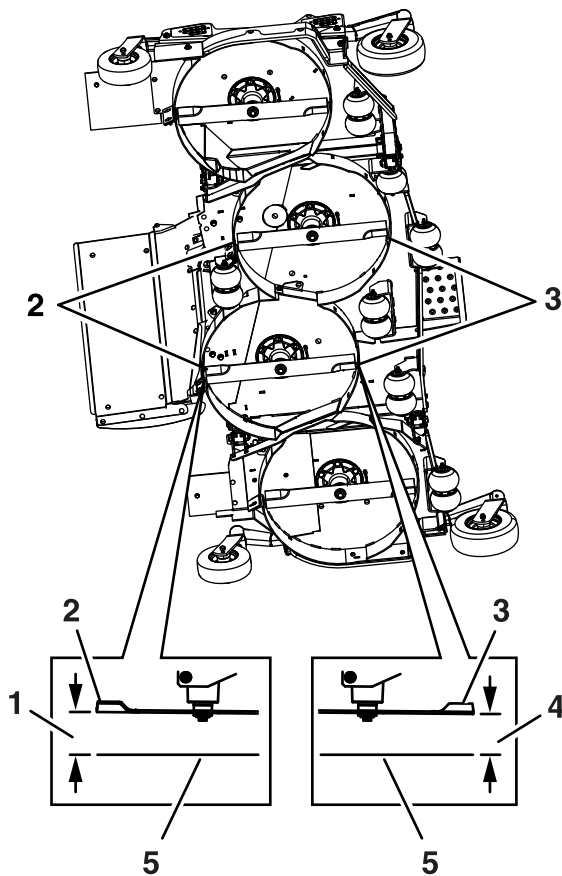

Figure 71
10. Measure from the level surface to the front tip of the left and right center deck blades (Figure 71).